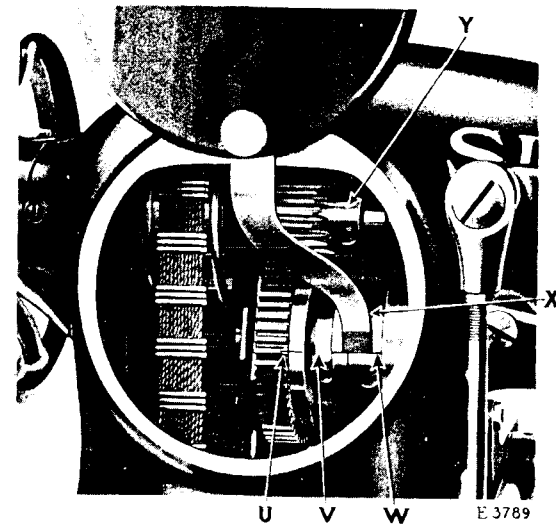
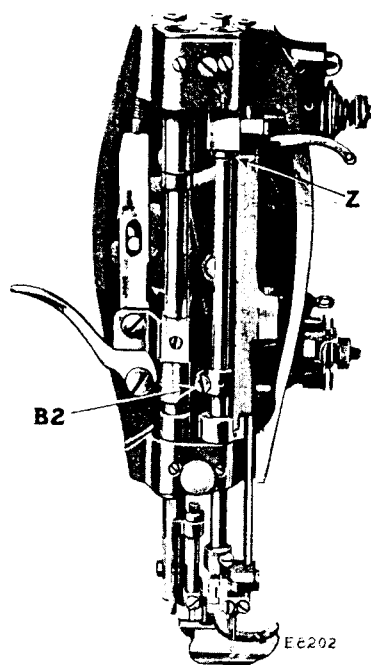

Fig. 14. Showing Timing Finger at Back of Machine for Timing Cams (U, V and W)
Fig. 15. Showing Lower Timing Mark on Needle Bar Centred with Lower End of Needle Bar Bushing (Z)
To determine whether the feed lifting cam and gear (U, Fig. 14), needle vibrating cam (V, Fig. 14) and feed driving cam
(W, Fig. 14) are correctly timed, remove the face plate and raise the round cover plate at the rear of the machine. Turn the balance wheel over toward you until the needle bar is on its upward stroke, after having completed the stitch on the hem (generally known as the first stitch), and the lower timing mark on the needle bar is just visible at the lower end of the upper needle bar bushing, as shown at Z, in Fig. 15. When the needle bar is in this position, the horizontal marks on the needle vibrat-
be in line with each other and register with the end of the timing finger (X) as shown in Fig. 14, if the cams are correctly timed.
In case the cams (U, V and W) are in time with each other, but not in time with the needle bar, loosen the two set screws in the small gear (Y, Fig. 14) and turn the feed lifting gear cam (U) until the lines on the cams (U, V and W) register with the
end of the timing finger (X), then tighten the two set screws. When making this adjustment, be sure to have the **lower timing mark** on the needle bar just visible at the lower end of the upper needle bar bushing, as shown at Z, in Fig. 15, when the needle bar is on its upward stroke after having completed the stitch on the hem, generally known as the first stitch.
Turn the balance wheel over toward you until the needle bar moves down to its lowest point. When the needle bar is in this position, the **upper timing mark** on the needle bar should be just visible at the lower end of the upper needle bar bushing (Z, Fig. 15).
In case the needle bar is not set at the correct height, loosen the screw (B2, Fig. 15) in the lower end of the needle bar connecting link and move the needle bar up or down until it is at the correct height, as instructed above, then firmly tighten the screw (B2) in the needle bar connecting link.
To determine whether the hook is correctly timed, turn the balance wheel over toward you until the **lower timing mark** on the needle bar is just visible at the lower end of the upper needle bar bushing, as shown at Z, in Fig. 15, when the needle bar is on its upward stroke. When the needle bar is in this position, the point of the hook should be at the centre of the needle.